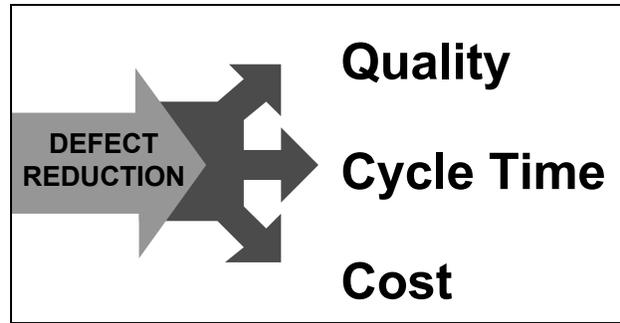

Figure 14 - Synergism of Six Sigma
**4. Synergism** - Reduction of defects is not the only benefit from Six Sigma. It has a synergistic effect in other areas as well (Figure 14). Preventing defects improves the quality of the product. Cycle time is reduced by reducing inspection and rework of defects, and by streamlining the work processes. Those streamlined, defect-free processes produce better results at lower cost. They don't waste resources.